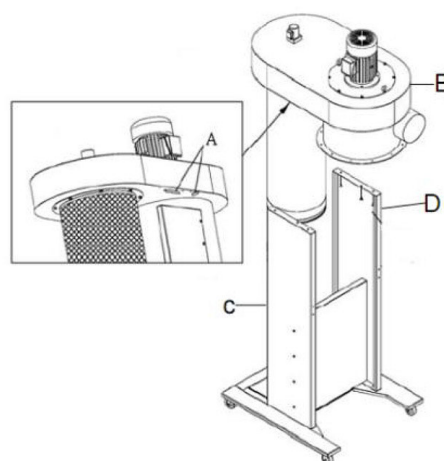

Fig. 7: Assemble main housing and base frame
**Step 7:** With the help of other people, lift the housing (B, Fig.7) onto the base and attach the housing to the left and right side panels (C and D, Fig.7).